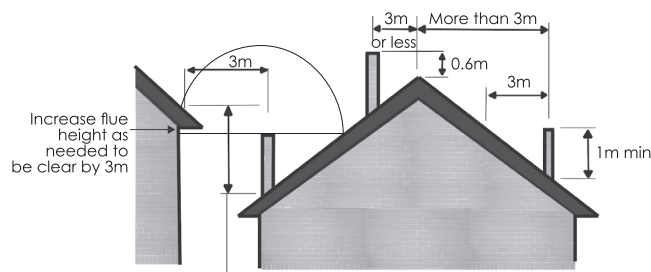

FIG. 1
7. These heights are given as a general minimum, and in actual practice the presence of surrounding structures, trees, fences, etc. may necessitate additional height for satisfactory performance. Refer to Fig 1.